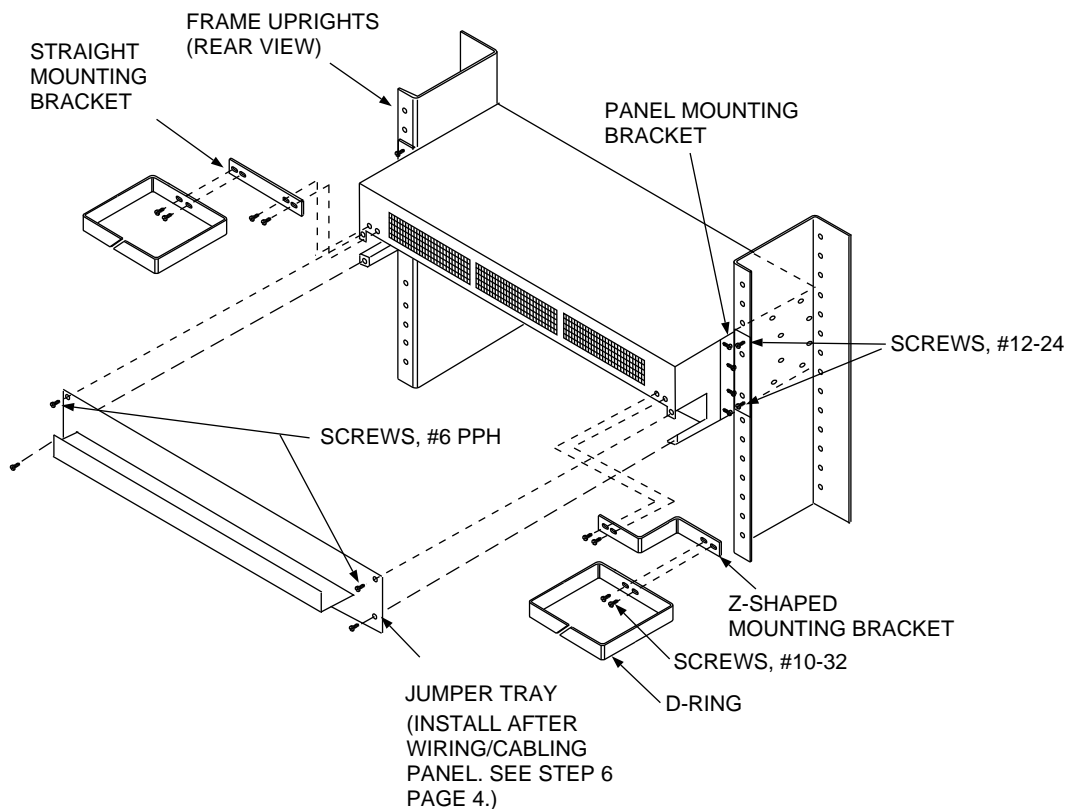

Figure 1. Mounting 84-Circuit Rear/Rear Hardwired Bantam Panel to Rear of Frame
2. Mount panel at desired location and fasten with four No. 12-24 by 3/8-inch (9.52 mm) long screws (see Figure 1 on page 3).
3. If necessary, fasten D-rings and appropriate D-ring mounting brackets (straight or Z shaped) with eight No. 10-32 by 1/4-inch (6.4 mm) long screws. Figure 1 shows both types of mounting brackets. Select the type of D-ring mounting bracket that best matches the existing hardware.
6. Install rear jumper tray using two No. 6 Phillips pan-head screws (see Figure 1 on page 3).